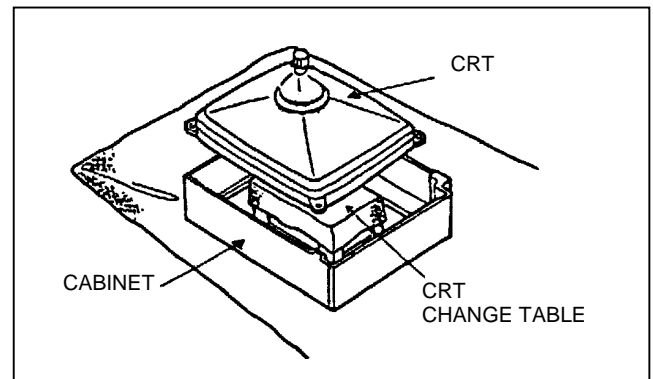

Fig. 5
5. After 4 screws have been removed, put the cabinet slowly on cloth. At this time, be carefully so as not to damage the front surface of the cabinet as shown in Fig.5.